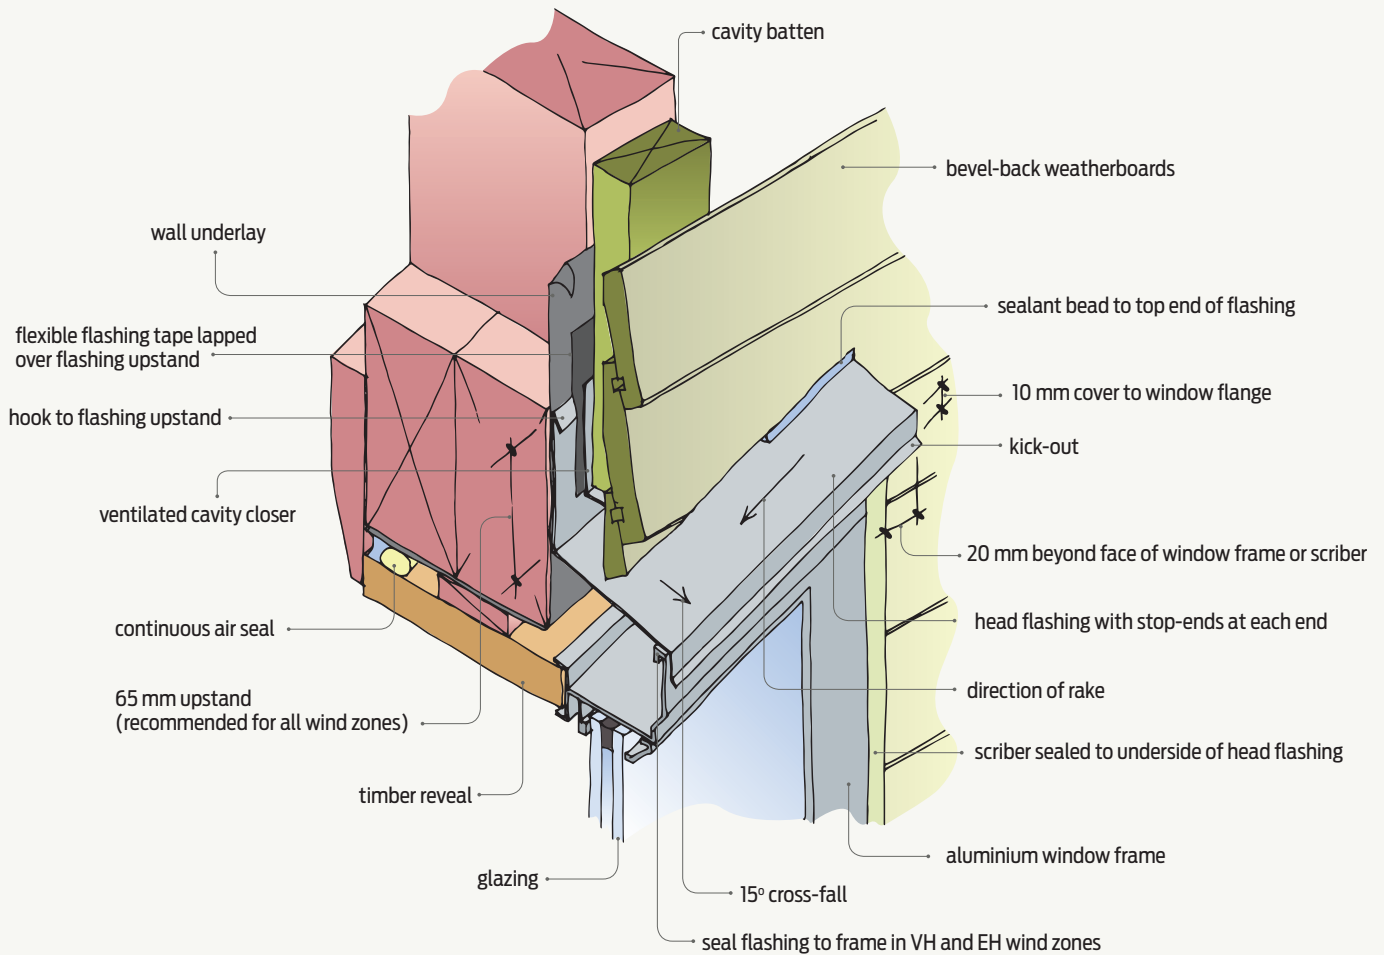

Figure 2 Raked flashed window head – preferred option.
- extend at least 20 mm beyond the face of the window frame or the scriber or rustic plug where horizontal weatherboards are installed (see Figure 2)
The key elements to the detailing of a raked aluminium head (Figure 2) that overlaps the cladding are: